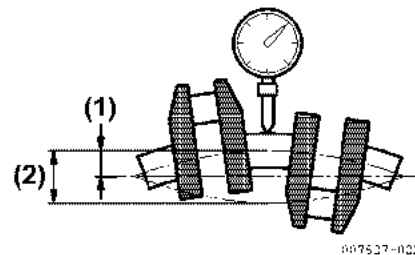

Figure 5-107
- Support the crankshaft with V-blocks at both ends of the journals. Measure the deflection of the center journal with a dial gauge while rotating the crankshaft to check for crankshaft run-out (Figure 5-107).